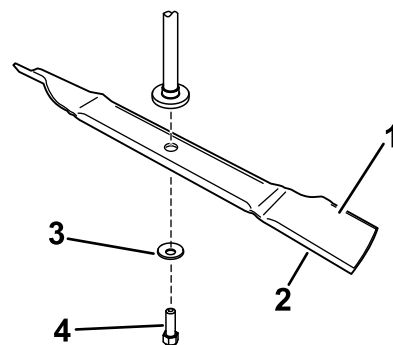

Figure 8
1. Install the blade onto the spindle shaft (Figure 8).
2. Install the curved washer (cupped side toward the blade) and the blade bolt (Figure 8). **Do not install a blade stiffener.**
These blades do not require the blade stiffener bracket (Figure 8).